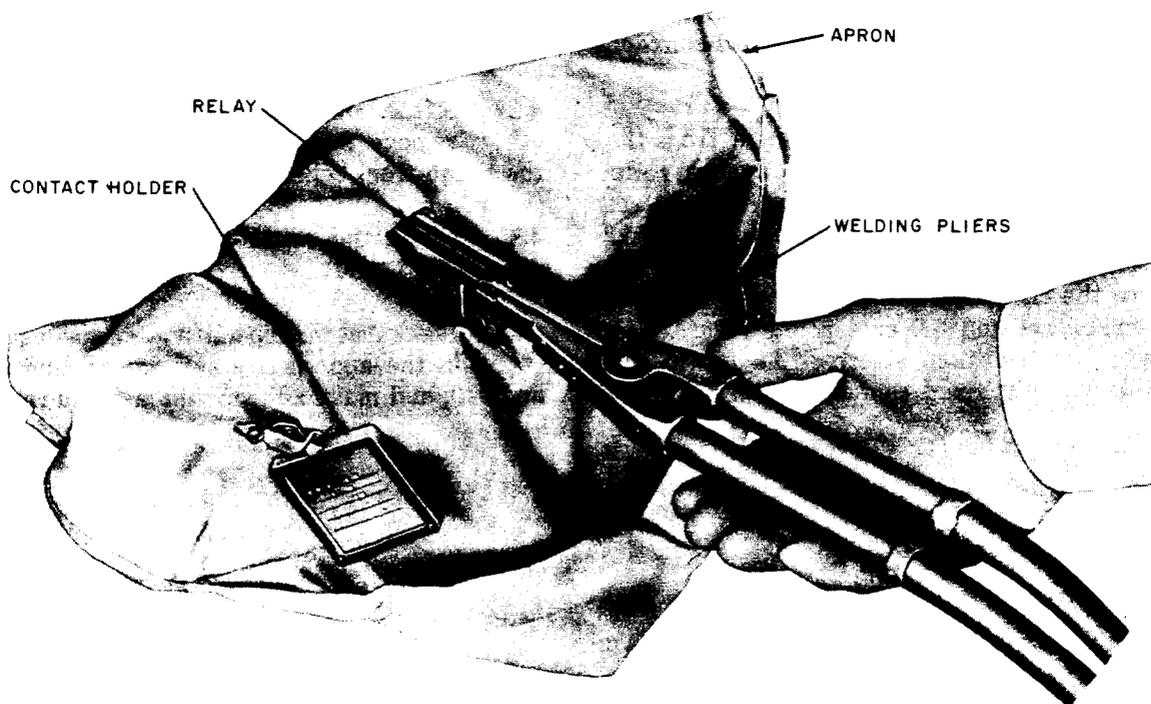

Fig. 10—Welding Pliers in Position for Welding Contact
4.24 After positioning the pliers, as covered in 4.22 or 4.23, shift them slightly so the end of the spring is firmly seated in the notch in the guide. Then, release the pressure on the plier handles, thus holding the contact firmly in position on the spring. (See Fig. 10 and 11.)
4.25 Hold the plier handles in a horizontal position with the center line of the pliers in line with the spring as shown in Fig. 10 and, with all hand pressure removed from the handles, depress and release the control button. Holding the control button operated has no effect since the time control relay is held locked until the control button is released. Do not operate the control button more than once for any one welding operation.